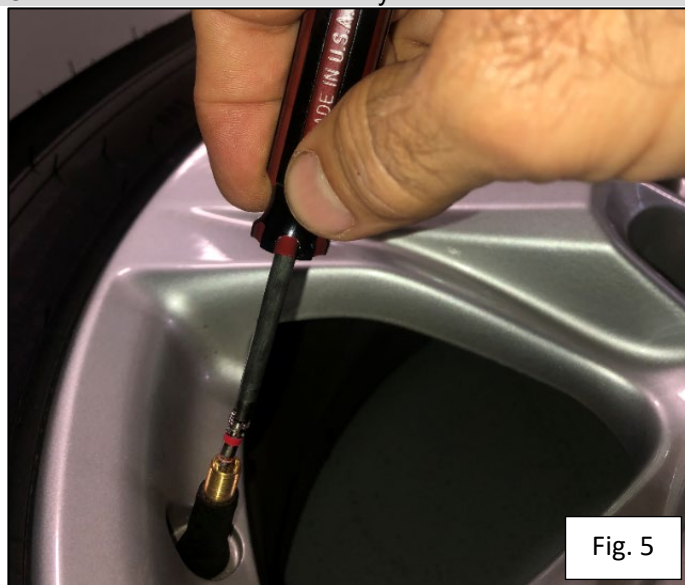

Fig. 5
7. Remove valve stem cap and Schrader valve core to deflate tire. Retain valve stem cap and valve stem core for reuse. Figure 5.